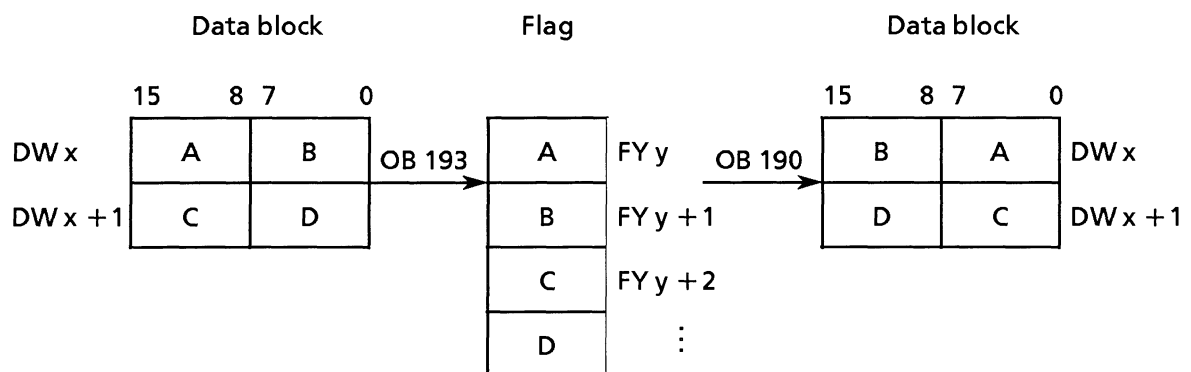

Figure 2-21 Exchanging High-Order Byte and Low-Order Byte in a DB Using OB 193/OB190
- High-order byte and low-order byte can be exchanged in the data block without great effort by transferring data words to the flag area and reloading them in the DB, as shown in Figure 2-21.